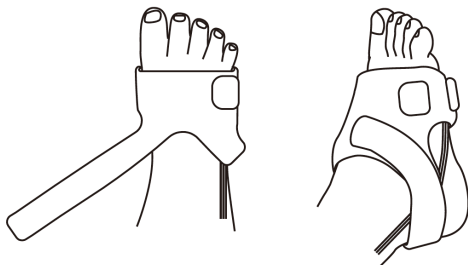

Figure 3.1.8
3. Use the ankle wrap to secure the sensor cable on the ankle or leg (see Figure 3.1.8). Do not over-tighten.